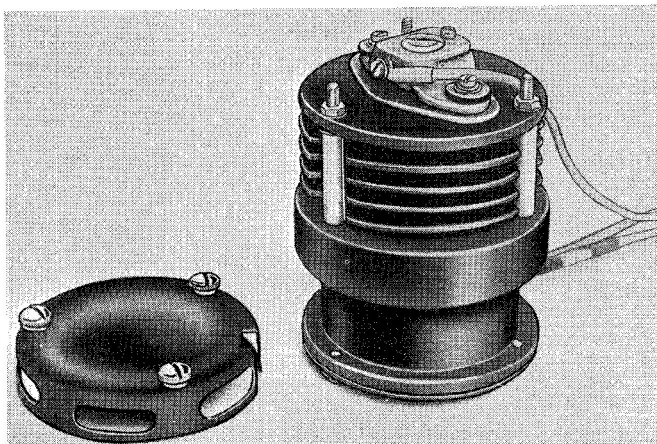

Fig. 1. Voltage regulator, Type 93
2. The voltage regulator (fig. 1) is of the single pile type, its assembly consisting of an operating coil and magnetic circuit, an armature and leaf spring arrangement, and a pile of carbon washers. General information on the constructional